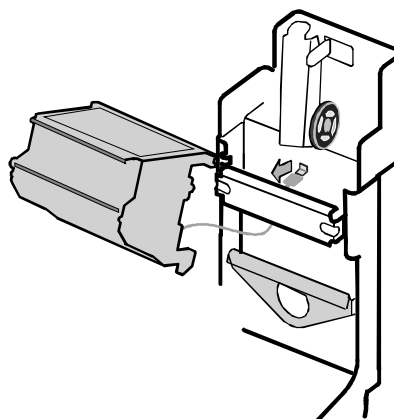

Figure 4-12: Printhead ground cable
- 7 Remove the ground cable connector from the ground tab of the swing arm by pulling on the red sleeve (see Figure 4-12).
- 3 If the printhead has a ground cable, slide the ground cable connector onto the ground tab of the swing arm (see Figure 4-12).